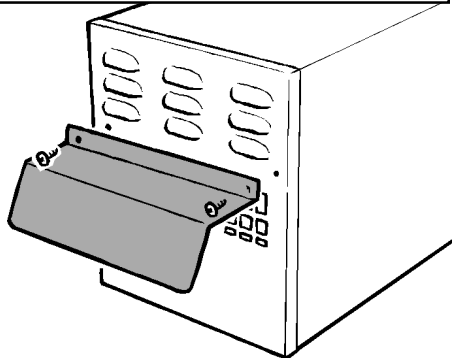

Figure 39 Weather Shield Fixings
13.12.2 Detach the weather shield and flue box end plate by removing two screws (figure 39).